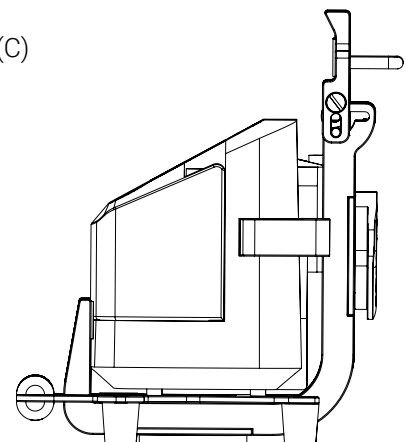

Figure 8: Unlocking and opening the support bracket
- Press and hold the quick release button of the support bracket (Figure 8 A), then flip the top towards the back (Figure 8 B and Figure 8 C).